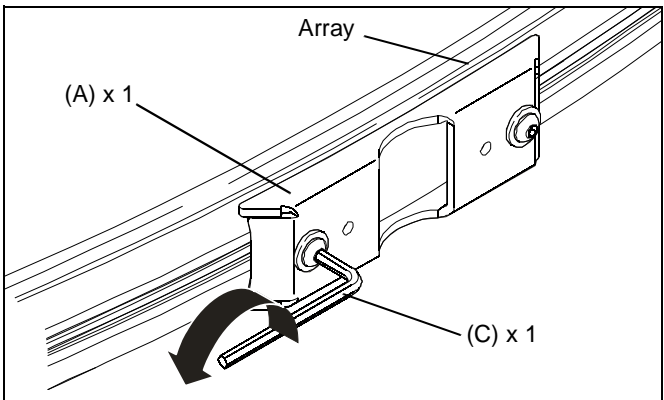

**Figure 5**
8. Align outer mounting holes in front array attachment bracket (A) with two square nuts (D) in array channel(s) and secure using two flat washers (E) and two button head cap screws (G). (See Figure 5) and (See Figure 6)